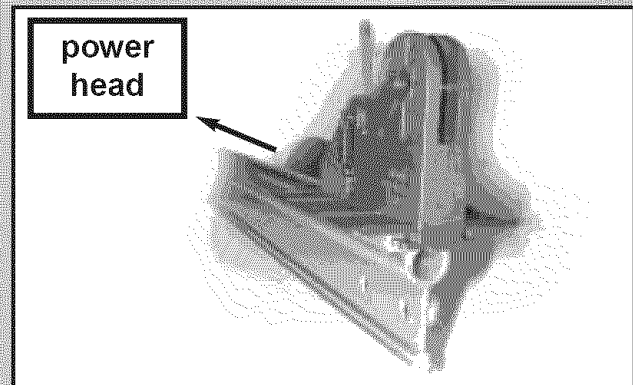

Fig. 1-15
- Slide carriage into rail. **Fig. 1-15.**